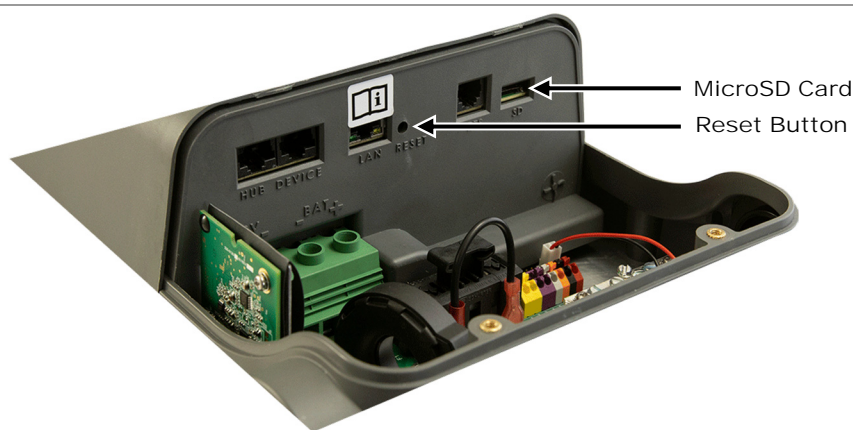

Figure 51 Location of MicroSD Card
2. If present, remove the microSD card from the FLEXmax 100. (See Figure 51.) The card can be ejected by pressing on the exposed end. It should depress slightly and then protrude with a click. Afterward it can be easily removed.
8. Press and hold the **RESET** button with a nonconductive narrow tool. (See Figure 51. The button is recessed inside the hole by several millimeters.)